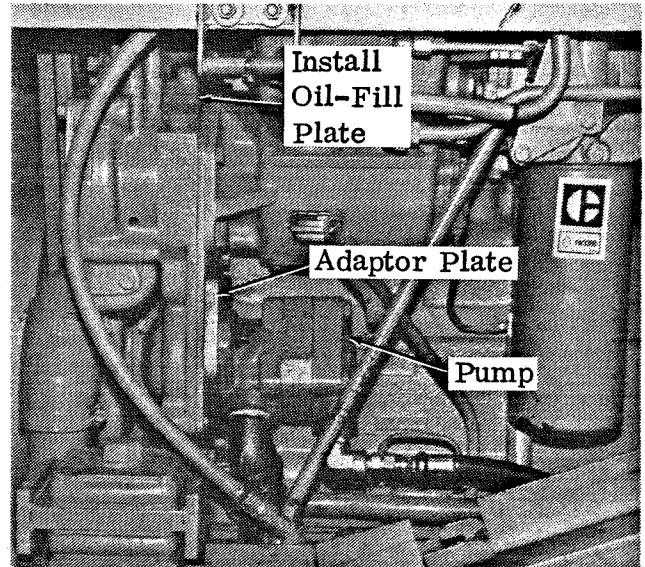

Figure 1
2. Remove the oil fill plate and install the hydraulic pump using the pump adaptor plate (Figure 1 - right, rear engine compartment). Loosely install the pump and adaptor plate.
3. Remove the plate (Figure 1) and replace with the new oil-fill plate.